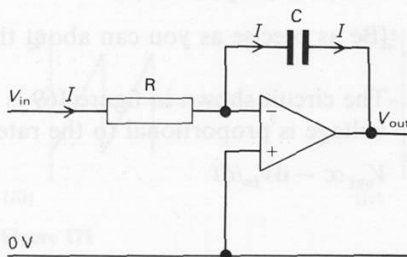

Figure I67
25(L) This question is about the circuit shown in figure I67 whose output voltage is the integral of the input voltage multiplied by a constant.
26(R) The circuit of figure I67 (page 135) performs the operation: